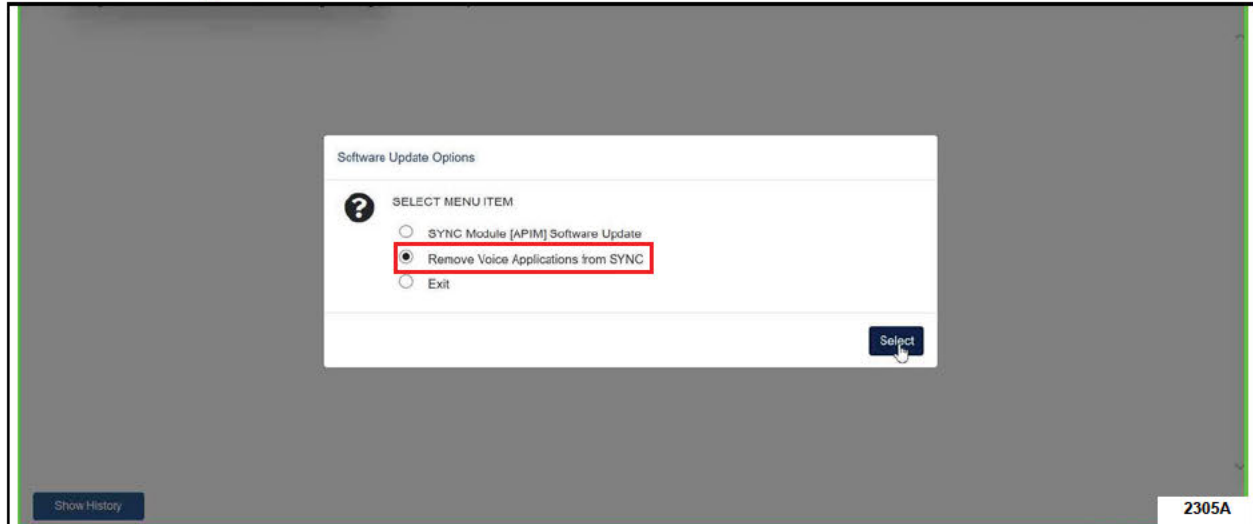

FIGURE 1
**NOTE:** Available modules are shown on the left hand (LH) side of the screen, and available procedures are listed on the right hand (RH) side of the screen. Modules that are communicating are highlighted in green.
8. When prompted for Software Update Option, click "Delete Voice application from module", then click **Select**. See Figure 1.